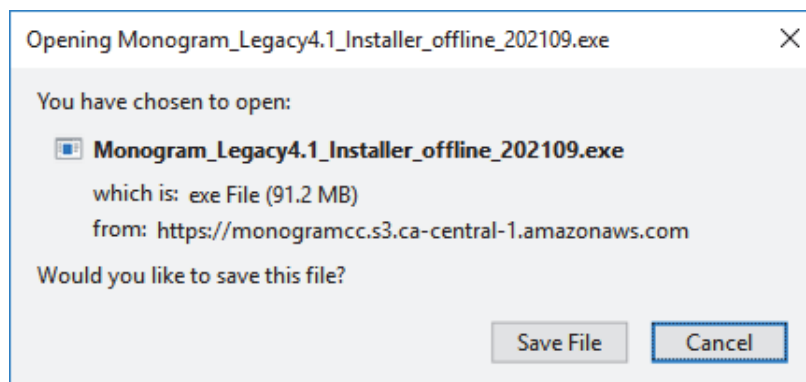

Figure 9 - Downloading Monogram Creator Installation File
2. A dialog box similar to the one shown in Figure 9 appears.